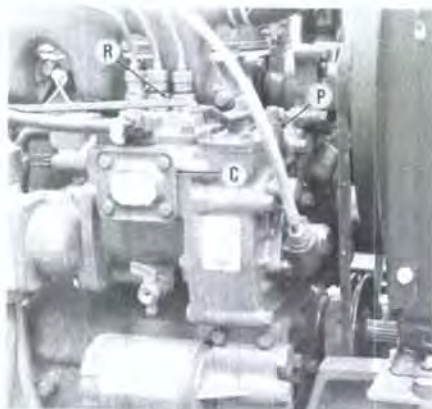

Fig. 23—View of governor linkage used on Models L225 and L225DT. Model L175 is similar.
hometer drive housing and unbolt and remove oil filter housing and filter unit. Remove side access cover (C—Fig. 23) from cylinder block. Using needle-nose pliers, unhook governor spring (7—Fig. 24) from fork lever (5). Disconnect control rod (R—Fig. 23) from governor arm and unbolt and remove lever plate (P) and associated parts, being careful that governor spring is withdrawn with governor arm. Working through top opening, unhook start spring (6—Fig. 24) from timing gear cover. On Model L175, remove fan blades. On Models L225 and L225DT, unbolt and remove water pump and disconnect by-pass elbow leading to thermostat housing. On both models, remove retaining cap screws and lift off timing gear cover.